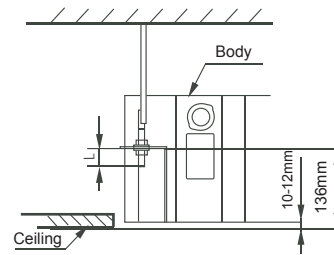

Fig.5-6
- Adjust the position to ensure the gaps between the body and the four sides of ceiling are even. The body's lower part should sink into the ceiling for 10~12 mm (Refer to Fig.5-6).
- In general, L is half of the screw length of the installation hook. (Refer to Fig.5-6)